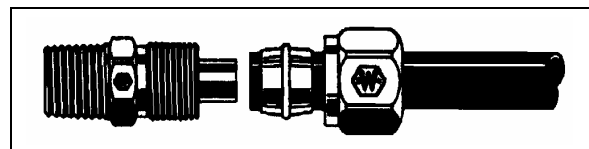

FIGURE 50: HOSE FITTING
**NTA-Type Plastic Tubing:** Hand tighten nut (Fig. 50). From that point, tighten using a wrench the number of turns indicated in the following chart.